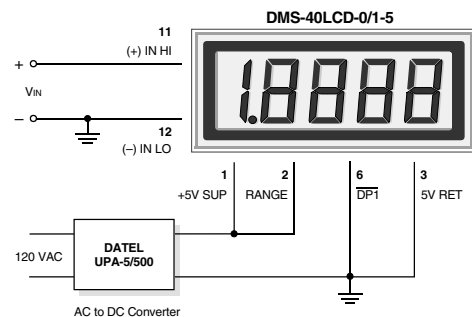

Figure 2. Single-Ended Input Configuration (5V-Powered Models)
- Single-Ended Input Configurations:** True single-ended measurements can only be made with 5V-powered meters. The circuit of Figure 2 avoids problems normally associated with ground loop currents. Separate ground runs should be used for 5V RETURN (pin 3) and (–) INPUT LO (pin 12).